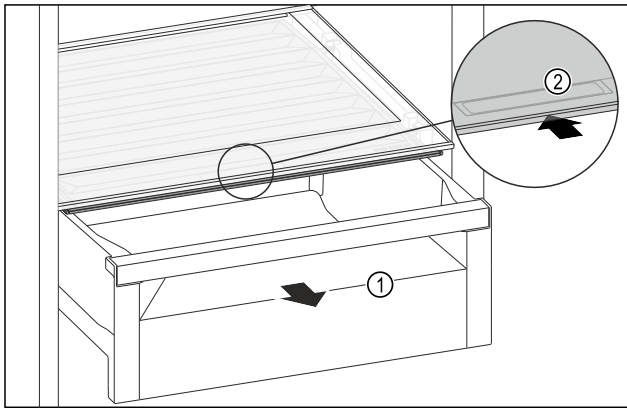

Fig. 111
- Pull out the drawer Fig. 111 (1).
- Grasp the recessed grip Fig. 111 (2) on the compartment lid and push the compartment lid backwards at the same time.